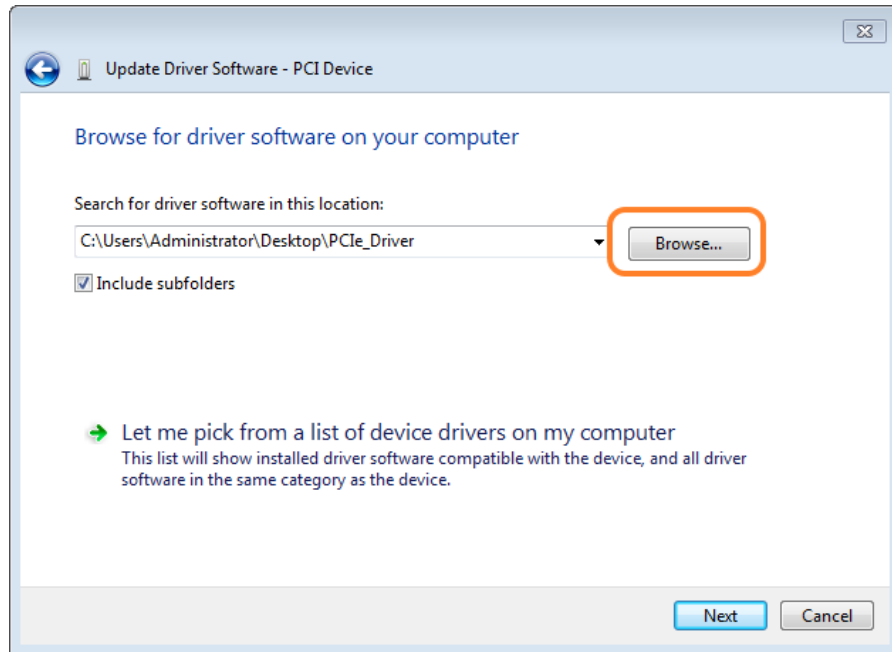

Figure 7-6 Browse for driver software on your computer
9. In the **Browse for driver software on your computer** dialog, click the **Browse** button to specify the folder where altera_pcie_din_driver.inf is located, as shown in **Figure 7-6**. Click the **Next** button.